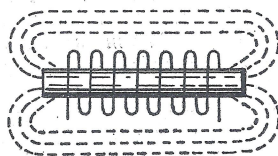
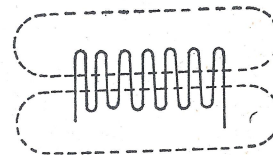
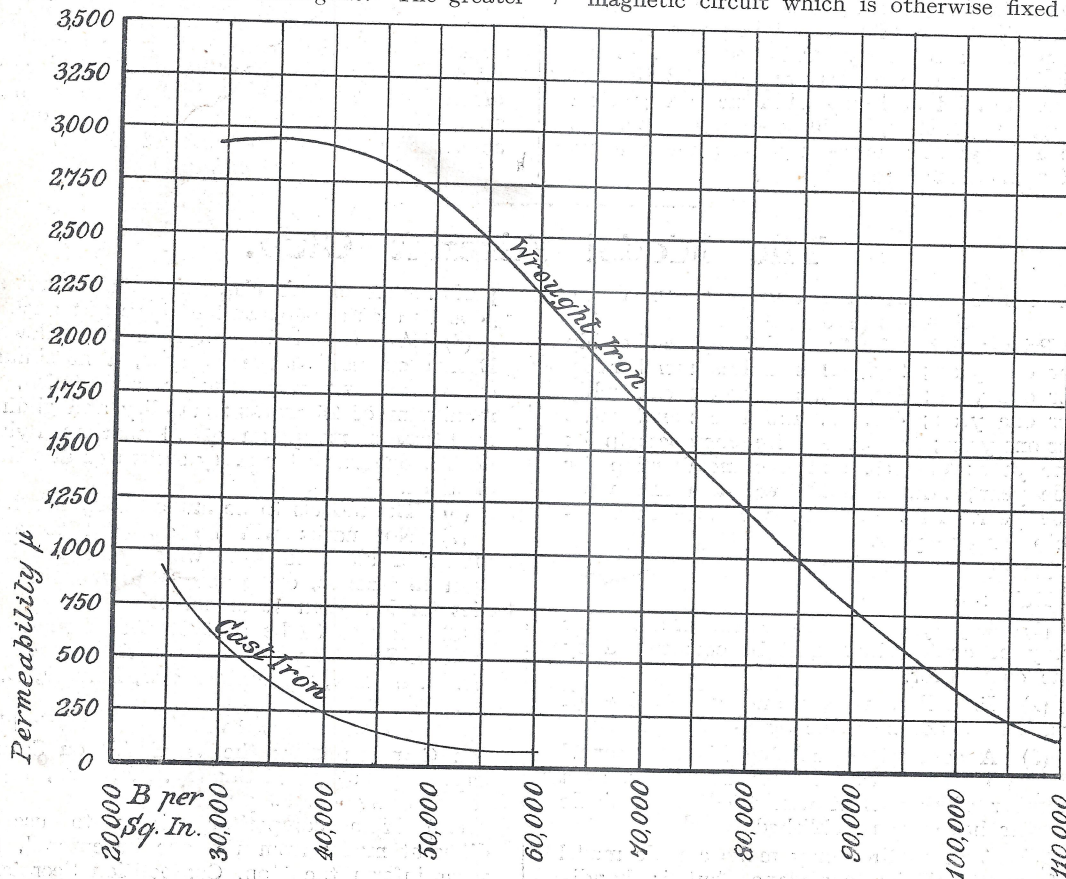

Fig. 1.—An Electro-magnet.
Fig. 2.—A Solenoid.
Fig. 3.—Permeability Curves of Wrought and Cast Iron.
exciting coil of wire, Fig. 1. When current is passed through this coil the iron core becomes a magnet; when the current ceases, the iron core loses its magnetism almost completely. Take away the iron core, leaving only the exciting coil, and our electromagnet becomes a "Solenoid," Fig. 2. But it still acts as a magnet when current flows through the coil, although it is much weaker in its effect than before.
as may be an "all-iron" route. Any airgap or non-magnetic material intercepting the flux introduces a great obstacle to the magnetic lines passing through it, although it is impossible to "insulate" them in the same way that an electric current can be confined to a definite path by surrounding it with a non-conducting material. Of the two, it may be said that it is even more important to study the design of the airgap in a magnetic circuit that it is the iron core. In the solenoid shown in Fig. 2, the whole of the magnetic lines generated by the coil have to pass through air, and this is why it exerts so much weaker an effect with a given current than when an iron core is introduced into the coil, transforming it into an electromagnet, Fig. 1.
Such materials as mild steel and its alloys show a very distinct difference in their response to magnetisation as compared with cast iron. There are many different grades of iron and steel, but for model making purposes, the characteristics of an average grade of each material will suffice for ordinary magnetic calculations. Characteristic curves of permeability will be found in Fig. 3, to which reference will frequently have to be made; the magnetising force and the resulting magnetisation in steel and cast iron are here plotted out in the form of curves, and at once show how much more readily mild steel responds than cast iron. A simple coil of wire, such as Fig. 2, carrying a current generates a certain number of magnetic lines according to the number of ampere-turns per unit of its length. This number of lines, or flux, will be enormously increased if an iron or mild steel core is inserted in the coil. In other words, the iron has a "multiplying effect" upon any flux which is due to coil effect alone. But the extent of this multiplication is not constant, it depends upon the flux-density or number of lines per unit area that are at the time present in the iron core. At first this multiplying increases faster than the magnetising force or mere ampere-turn effect, but after a certain point the iron responds less freely and its permeability diminishes more or less rapidly. Both cast iron and mild steel respond in the same general way, but the steel, it will be seen, is responsive to a far greater degree for the same amount of applied magnetising force.
The moral to be learned from this is that mild steel or soft wrought iron should always be used for magnet cores in preference to iron castings, when the design permits. To calculate the dimensions of a magnet for a particular strength, it is necessary to know the flux density at which the iron core can be worked, because the calculation of the magnetic reluctance depends largely upon this. If (H) magnetic lines are produced by the coil in air alone, and (B) lines result from the insertion of an iron core in the magnetising coil, as shown by the curves in Fig. 3, the relation between the two is:—
The possibilities of making an actual calculation of the strength of the magnet are now coming into sight, since its dimensions can be measured, the number of turns in the exciting coil can be counted and multiplied by the amperes passing through them. Fig. 3 gives the remaining clue required to ascertain the reluctance of the whole magnetic circuit, and when once this is known, the flux (F) is easily calculated.
In order to avoid the time wasted in trying to design magnets of impossibly small dimensions for the work they have to do, it is well to realise at an early stage that the magnetisation of iron or steel can only be carried out economically up to a certain point. This is more or less obvious from a study of the permeability curves in Fig. 3. The response of the iron to the magnetising force in its early stages is so much greater than at a later period, that it is obviously a waste of energy and material to try and push the magnetisation very much higher, when the permeability has already fallen so low that it lends little or no assistance naturally to the final results.